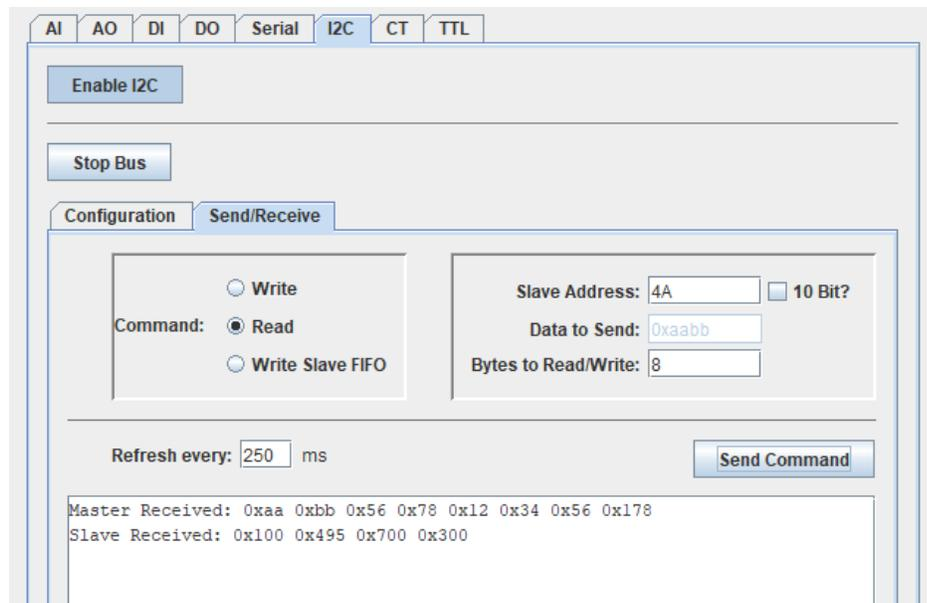

Figure 5-15 Read Command
- As shown in **Figure 5-15**, use the “Read” command to request 8 bytes from the slave at address 0x4A. Click **Send Command** and view the received data in the display window. The master receives the slave TX FIFO data, followed by the slave TX register data when the FIFO is empty. The display also shows the commands and data received by the slave (see Section 2.3.5.3.2). In this case no data was written to the slave.